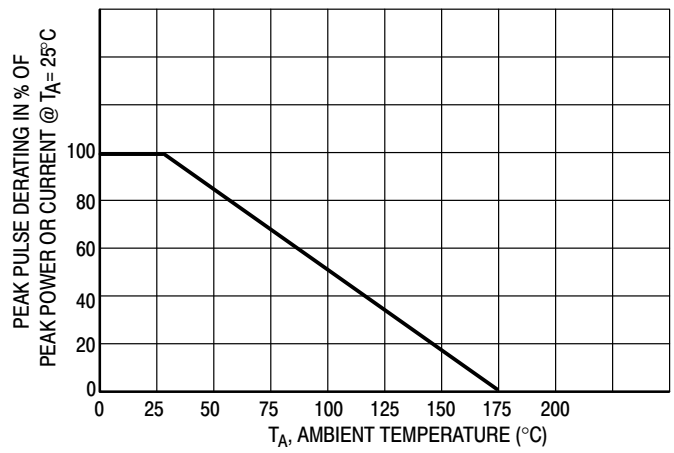
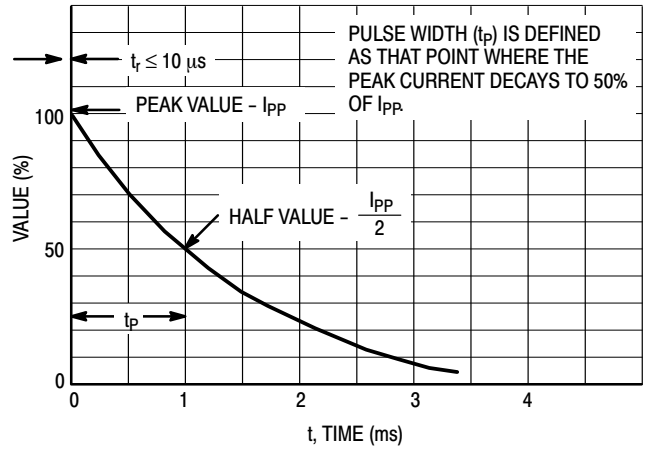

Figure 2. Pulse Derating Curve
Figure 4. Pulse Waveform
1. Nonrepetitive current pulse per Figure 4 and derated above $T_A = 25^\circ\text{C}$ per Figure 2.
7. Surge current waveform per Figure 4 and derate per Figure 2 of the General Data - 1500 W at the beginning of this group